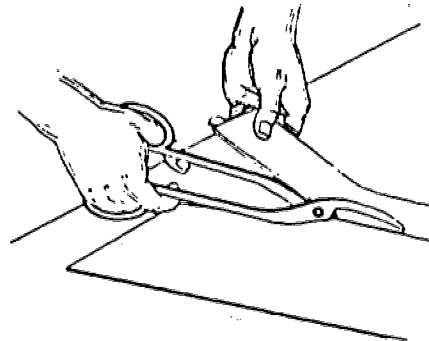

FIG. 2 MAKING A STRAIGHT CUT
3. Grasp the snips in the right hand and the narrowest part of the sheet in left hand. (Fig. 2).
5. Cut the sheet by closing the blades just short of the full length to prevent leaving jagged edges. (Fig. 2).